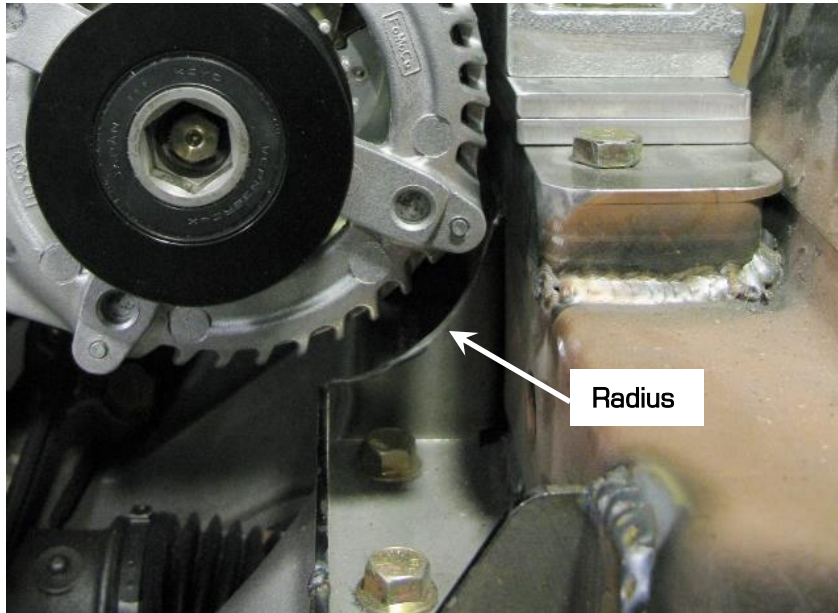

Figure 3 - Modify ARB Bracket
3. Modify the rear gusset of the framerail ARB Bracket to match the contour of the alternator (Figure 3). This modification will help if the alternator needs to be replaced.